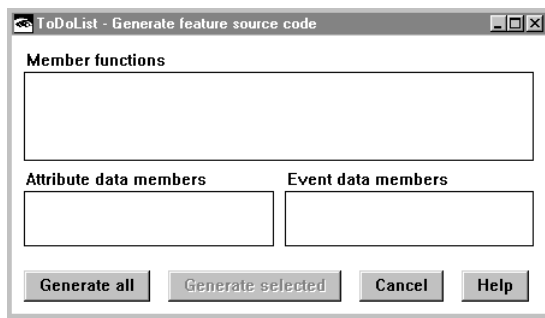

Figure 91. Generate Feature Source Code Window
- b. Select **File**→**Save and generate**→**Feature source**. Visual Builder displays the ToDoItem - Generate Feature Source Code window, as shown in Figure 91.